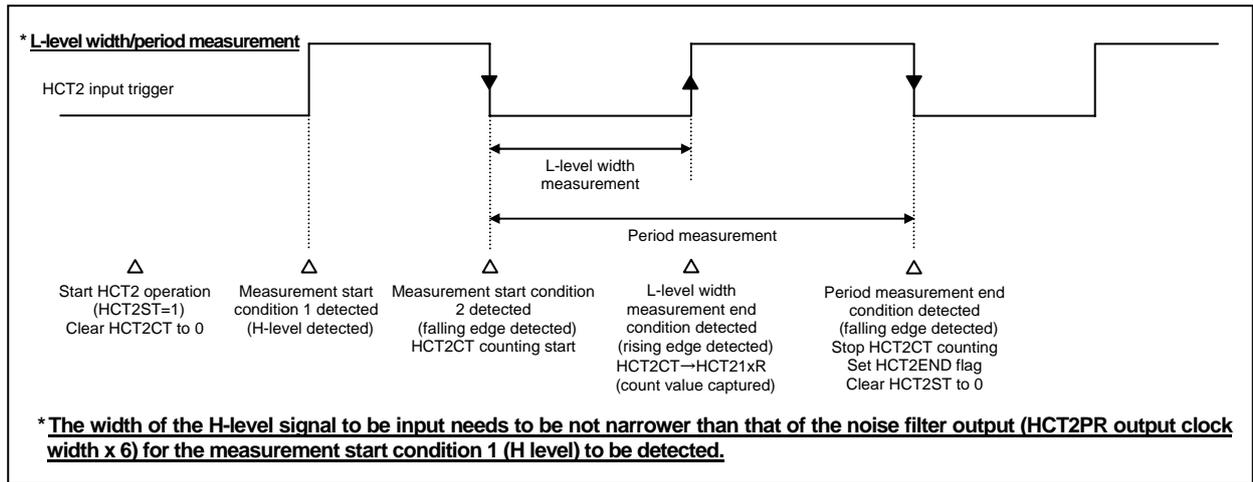

Figure 3.8.2 Sample High-speed Pulse Width /Period Measurement Counter 2 Waveforms
- 3) The contents of the HCT2CT are captured into this register if the end of L-level width measurement condition is detected when the HCT2ST is set to 1 (see Figure 3.8.2 for details).
- 3) The contents of the HCT2CT are captured into this register if the end of L-level width measurement condition is detected when HCT2ST is set to 1 (see Figure 3.8.2 for details).
* See Figure 3.8.2 for details.
* The measurement starts when the specified measurement start condition is detected after HCT2ST is set to 1 (see Figure 3.8.2 for details).
This bit is set to 1 when the end of HCT2 measurement condition is detected (see Figure 3.8.2 for details).
- 3) The contents of the HCT2CT are captured into this register if the end of L-level width measurement condition is detected while HCT2ST is set to 1 (see Figure 3.8.2 for details).